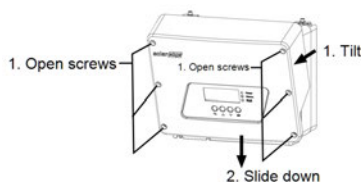

Figure 27: Removing the inverter cover
5. Open the inverter cover (see *Figure 27*).